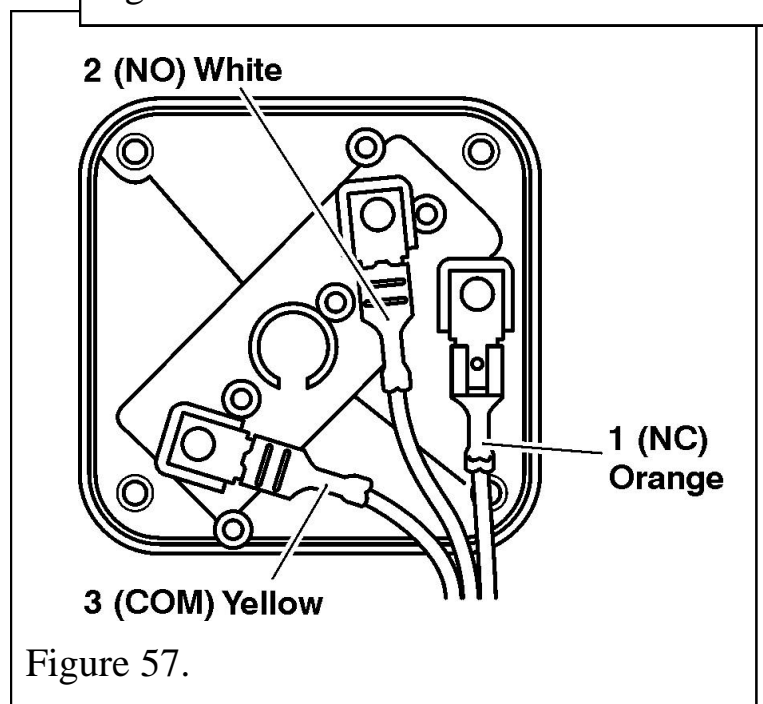

Figure 57.
3. Replace in reverse order. Ensure that all three leads are firmly connected (See figure 57).